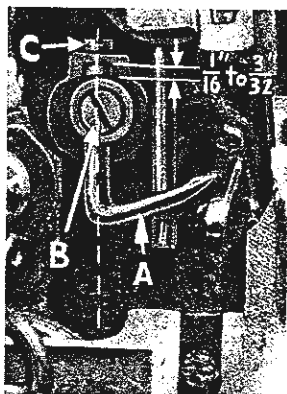

Fig. 8
Insert upper looper (A, Fig. 8) in its holder. Screw (B), holds upper looper in its holder, and permits it to be pushed in or out of turned around its shank. Insert upper looper holder into upper looper shaft, if it is not already in place. Screw (C), on clamp holds the upper looper holder in the shaft. Locate upper looper in its holder so that the shank extends $1/16$ to $3/32$ inch beyond holder (Fig. 8), FS, FT, FU, GD, GL, GT, and JP.
When the upper looper is at the right end of its stroke, upper looper holder should be set to position upper looper shank approximately vertical on Styles 39500 FS, FT, FU, and GT (Fig. 8).